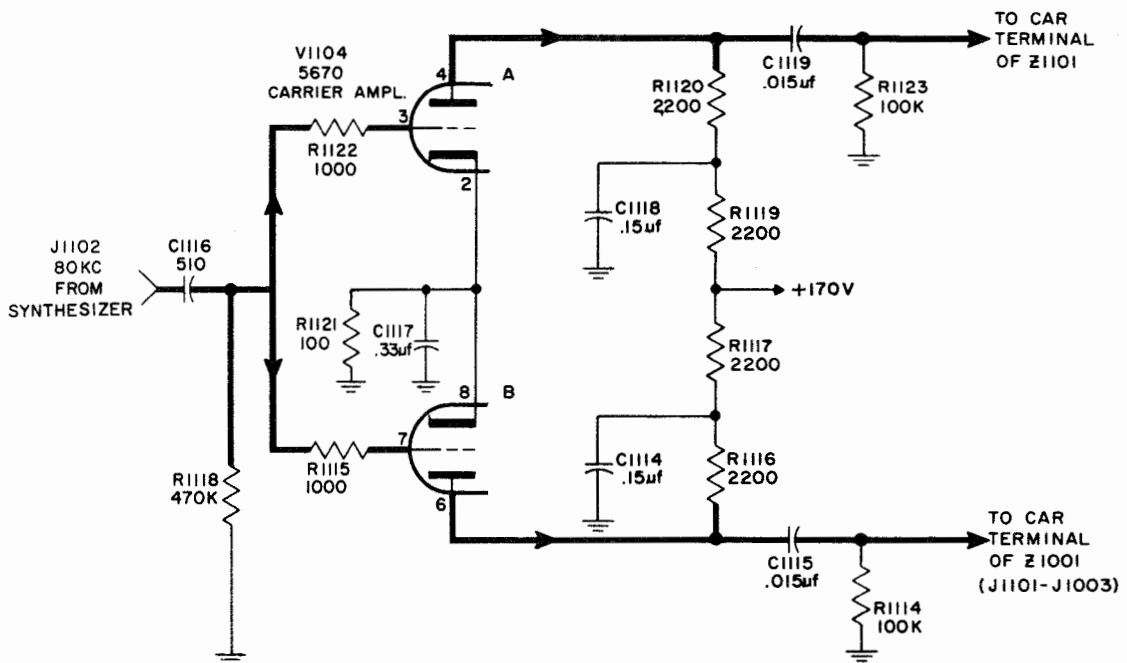

Figure 4-34. Carrier Amplifier V1104, Simplified Schematic Diagram
d. CARRIER AMPLIFIER V1104. (See figure 4-34.)—Carrier Amplifier V1104 is a dual-triode tube, the paralleled grids of which receive their 80 kc input from the synthesizer section via J1102 and C1116. The amplified output of triode A is developed across plate load resistor R1120 and applied via capacitor C1119 to CAR terminal of balanced ring demodulator Z1101 of the LSB detector-amplifier. The amplified output of triode B is developed across plate load resistor R1116 and applied to balanced-ring demodulator Z1001 of the USB detector-amplifier by way of coupling capacitor C1115 and connectors J1101 and J1003.